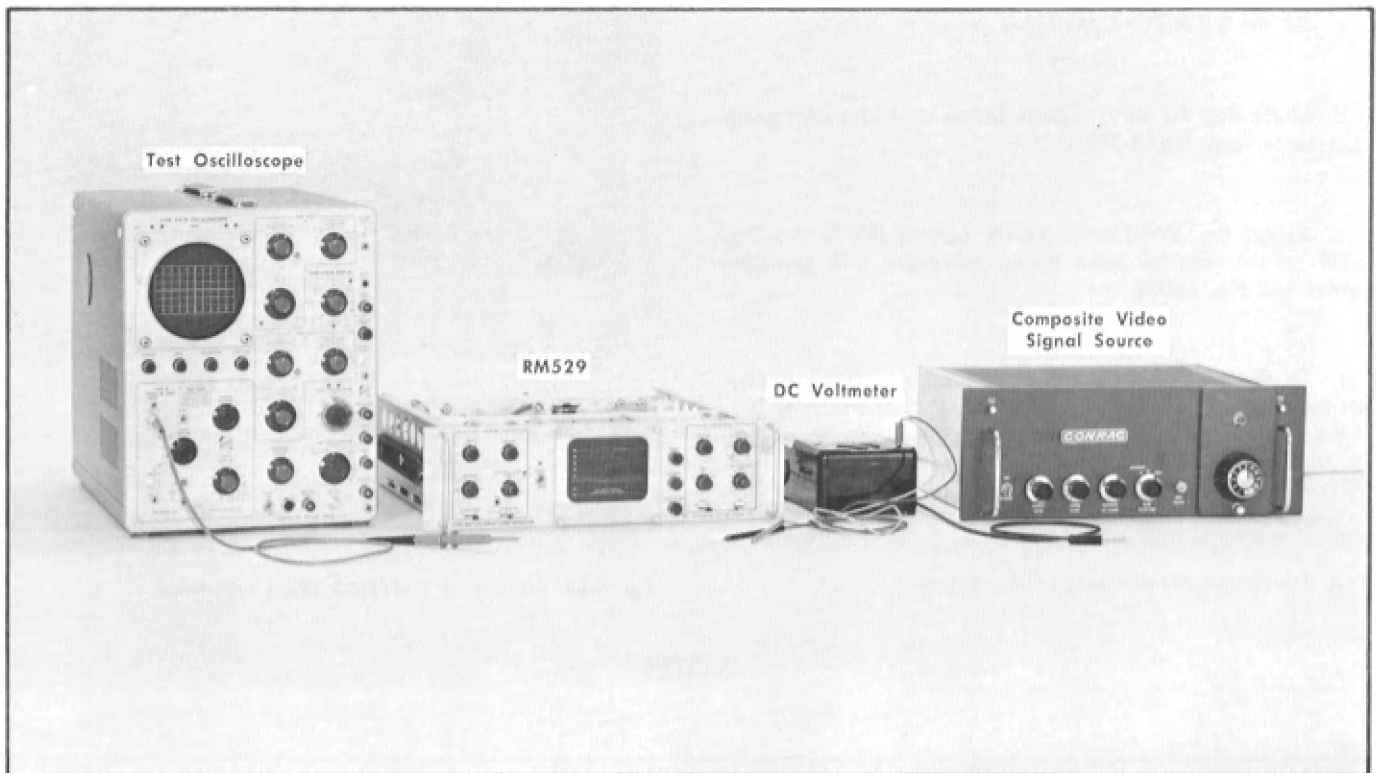

Fig. 6-29. Test equipment required for steps 22 through 24.
- a. Test equipment setup is shown in Fig. 6-29.